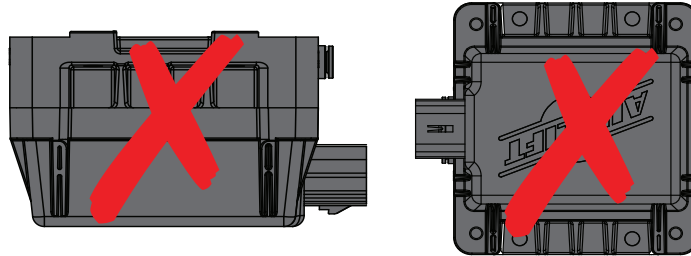

fig. 3
2. The manifold can be mounted in any orientation except with the logo facing the ground or with the logo upside down (Fig. 3).